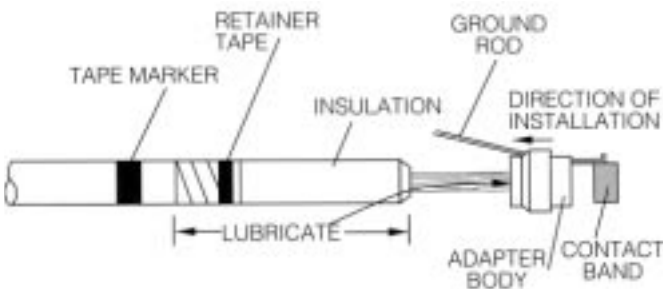

Figure 9.
- Slide adapter body over cable, using a twisting motion in direction of the metallic tape shield wrap. Position adapter body against tape marker on outer jacket. (Refer to Figure 9.)